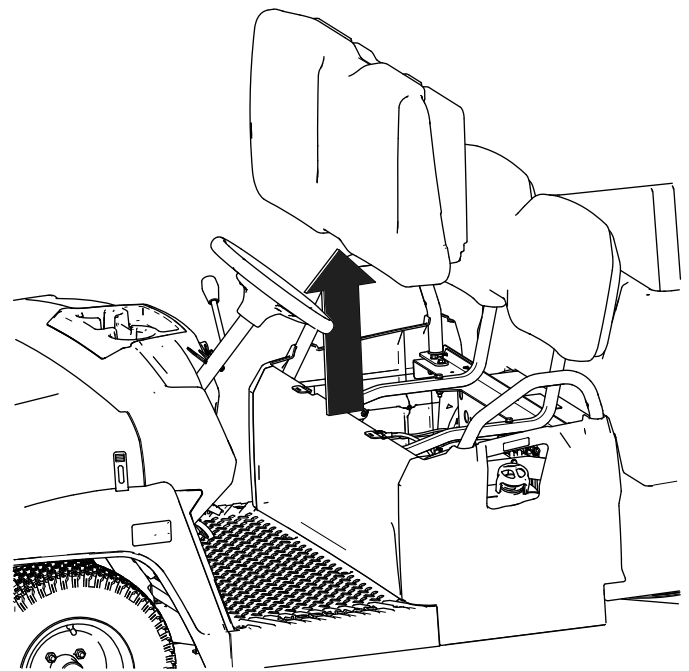

Figure 30
2. Lift the cushion upward out of the bracket. (Figure 30).